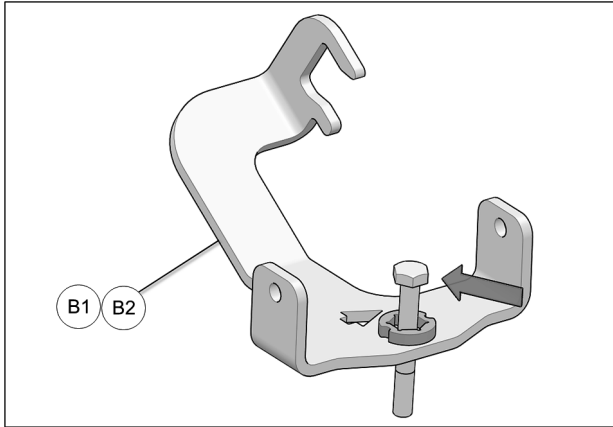

Fig. 4
4. Insert bolt in the rear anchor bracket (B1-B2) as shown in Fig. 4